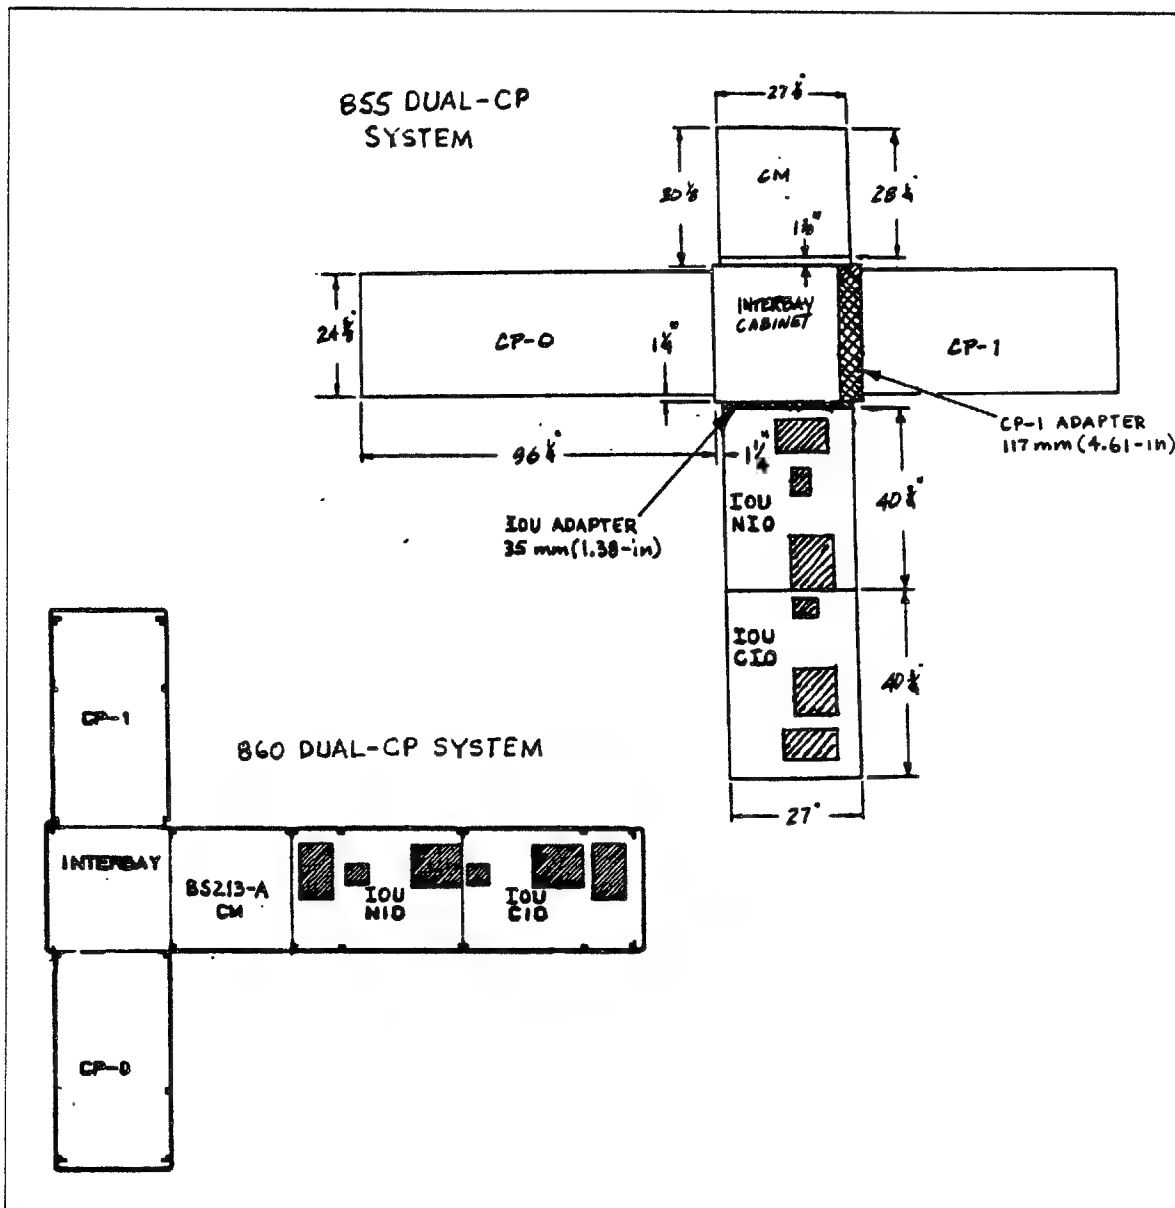

Figure 2-24. IOU NIO and CIO Floor Cutout Locations
- Floor is level and floor cutouts are correct (refer to figure 2-24)